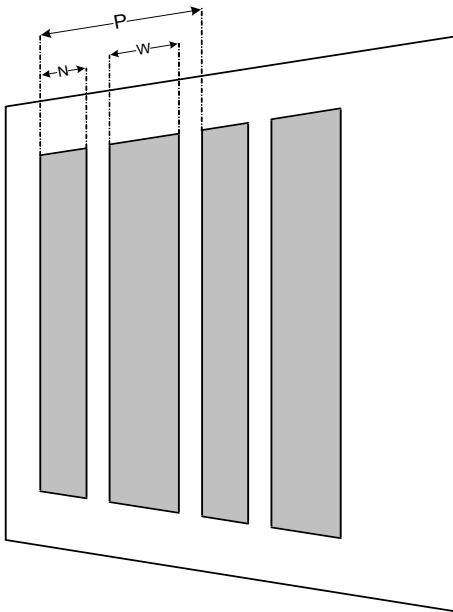

Figure 25 – Measure pairs of stiffeners.
Figure 25 shows measurements of the folds. When measuring the folds, first measure the distance (P) along the edge of a pair of "in" and "out" folds including both the ribs and the gaps. Next measure the width of the narrow (N) and wide (W) ribs. Finally, calculate the gap as one-half the difference between the width of the pair and the combined width of the ribs: